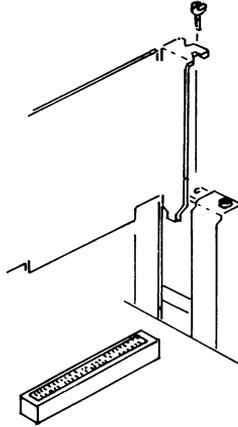

FIGURE 3
Step 2 Hold the QuadEGA ProSync firmly at the top edge of the board and press the gold edge connector into the expansion slot as shown in Figure 3 below.